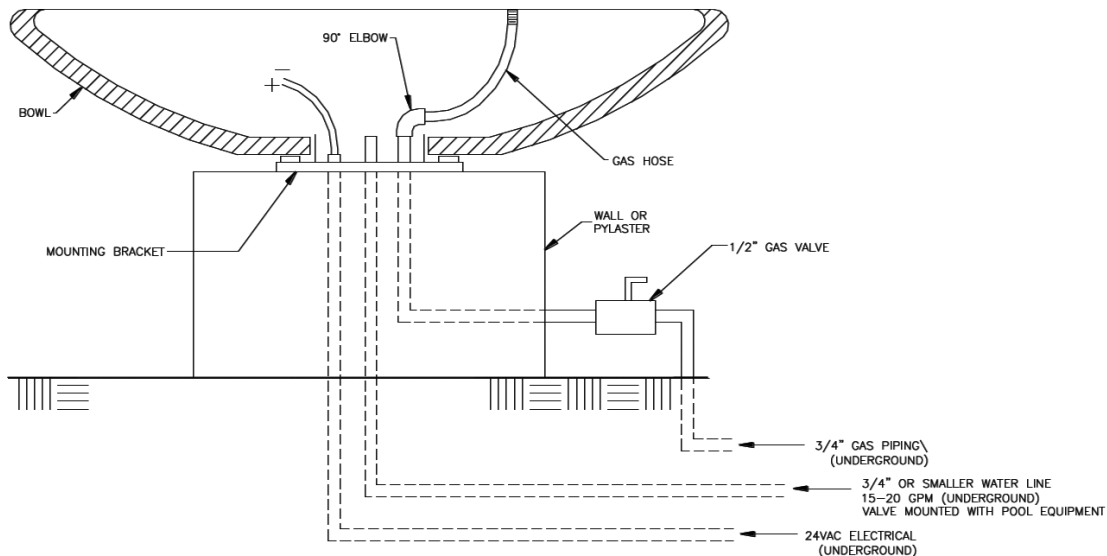

Figure 5: Mounting
9. Install the mounting bracket as shown in Figure 5. The mounting bracket should be secured using three bolts.
11. Install 90° pipe elbow and gas hose at the gas connection as shown in Figure 5.
Important: The mounting bracket must be installed for proper cooling of the burner assembly. Warranty is voided if the mounting bracket is not installed. Do not kink or make sharp radius on the metal gas hose. Do not come straight up with the gas hose. As shown in Figure 5, a 90° gas pipe elbow must be installed on the gas line for proper installation of the gas hose. The product warranty is voided if it is not installed with an elbow as shown in Figure 5.